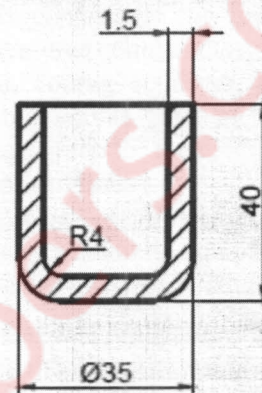

Figure 3
- (b) For a drawn cup shown in **Figure 3**, Calculate the following: -